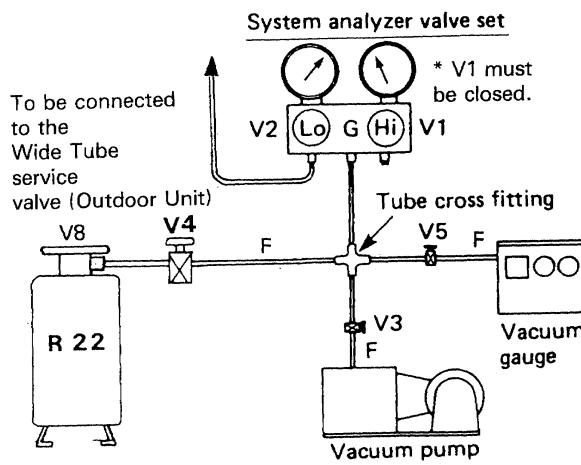

Fig. 23
- 1) Prepare the system analyzer valve set and connect charging hoses as in Fig. 23. Be sure to close all valves before connection.